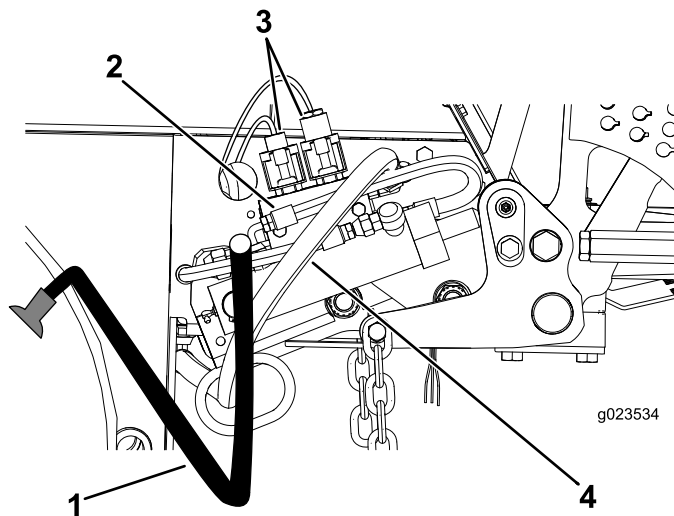

Figure 12
11. Route and connect the hydraulic-pressure hose and tank hose to the control valve (Figure 12).
12. Connect the electrical wires to the electrical connectors (Figure 12).